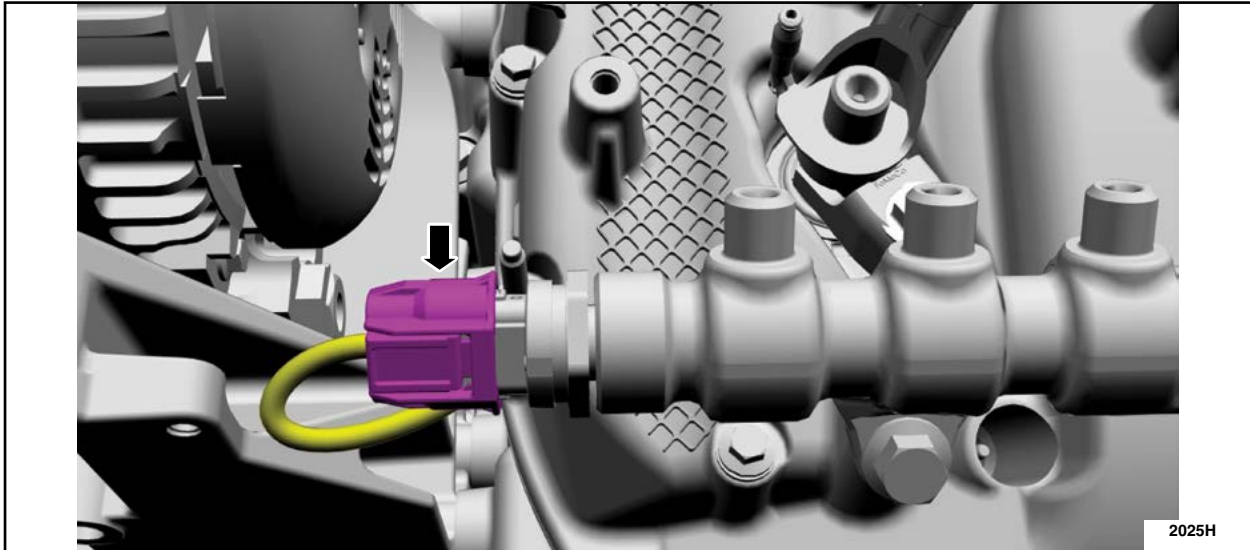

FIGURE 8
11. Disconnect the LH fuel rail electrical connector. See Figure 8.
15. Connect the LH fuel rail electrical connector. See Figure 8.